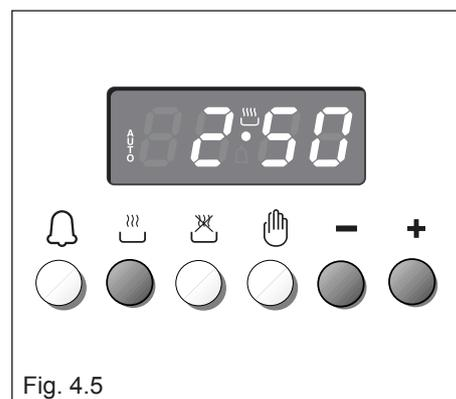

Fig. 4.5
1. Set the length of the cooking time by pushing the 🌀 button and the + button to advance, or — to go back if you have passed the desired time (fig. 4.5).